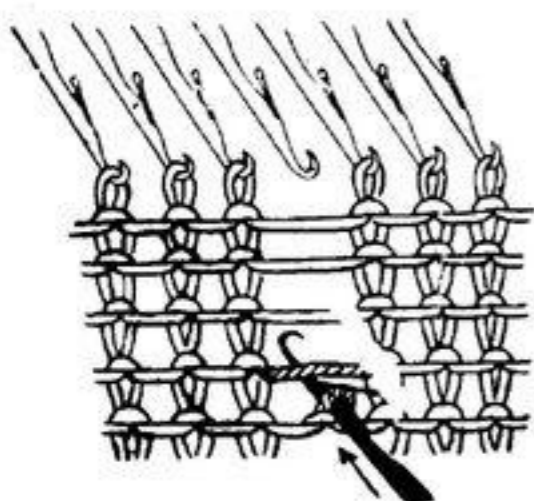

Fig. 34-1
1. Insert the open hook into the loop and push the needle forward under the strand above the loop until the loop is behind the latch. (Fig. 34-1)